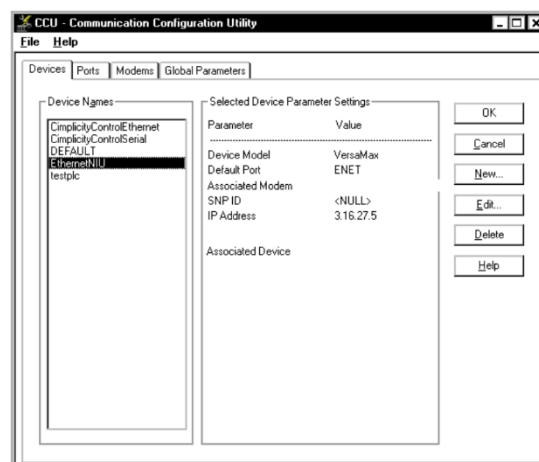

Figure 49: Set up Communications Parameters for ENIU
- 1) Choose Communications Setup from the Tools menu. The Communication Configuration Utility dialog box will appear (Figure 49).
If your communications parameter settings are not compatible with the target network, you can change them in the Communications Configuration Utility dialog box, shown in Figure 49. Click the Device Name of your ENIU communications setup to select it (it is called EthernetNIU in Figure 49). Click the Edit button to make changes. Make sure that: